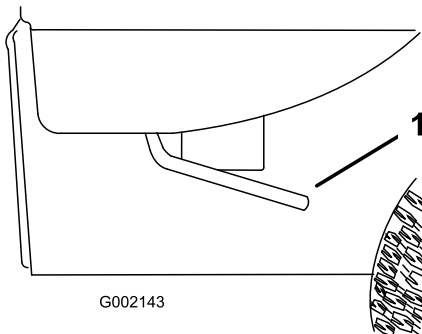

Figure 26
1. Lift the lever on either side of the box and lift the box up (Figure 26).